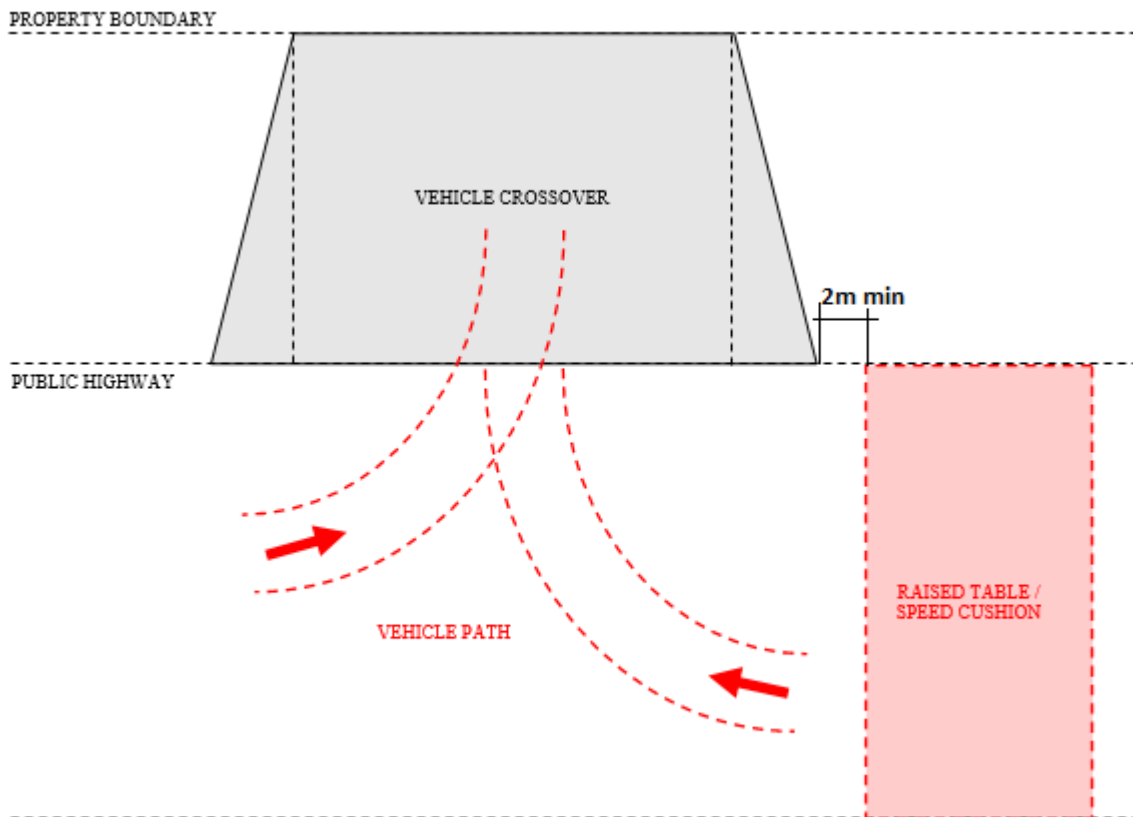

Figure 11: Required Unobstructed Vehicle Path.
- Figure 11: Required unobstructed vehicle path
- h) **Traffic Calming Features (e.g. speed humps, tables, cushions etc.)** – If there are any traffic calming features, such as horizontal and/or vertical deflections of the road surface forming 'kerb build-outs', speed humps, tables, or cushions etc., that a vehicle could not entirely clear before maneuvering onto the proposed vehicle crossover, as shown in Figure 11, below, the application will be refused.